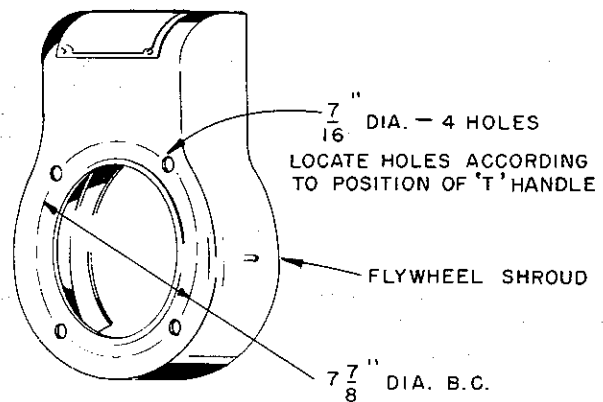

FIG. 4
E. Drill four 7/16 inch diameter holes on the 7-7/8 inch diameter bolt circle, as illustrated in *Fig. 4*.